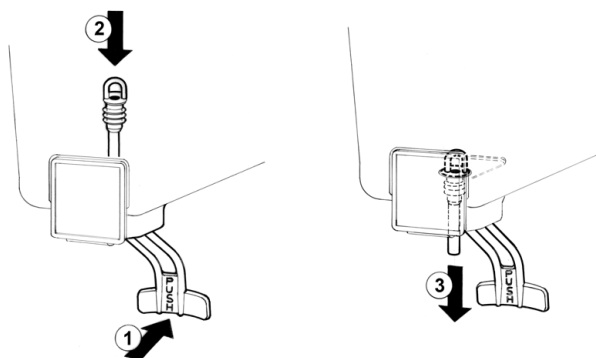

figure 6
- 2 **Pinch tube faucet:** push the dispensing handle (1) and insert the pinch tube into its vertical seat in the bowl bottom(2). Lightly pull the pinch tube end downwards til it is well arranged (3) (see figure 6).